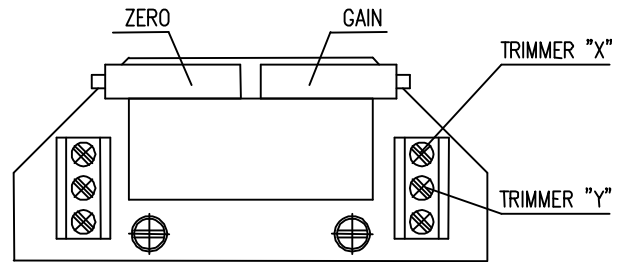

Fig. 6
4.4.2 EPV – 3-wire version (Fig. 6)
- Adjust the resistive transmitter according to the previous chapter. The resistance is to be metered on the terminals X-Y (Fig. 6). The used transmitter resistance is 2000 W or 100 W.
- Turn the adjusting trimmer ZERO (Fig. 6) to adjust the output current signal rate measured on the terminals 81-82 to 0 mA or 4mA.
- Turn the adjusting trimmer GAIN (Fig. 6) to adjust the output current signal rate measured on the terminals 81-82 to 20mA or 5 mA.